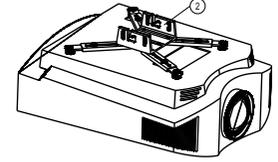

Figure 1-7
3 Step 3: install the assembly ② with the projector. According to the actual size of the projector (the installation hole position is different), each group of connecting arms and movable arms are fastened, and the distance locking screw can be adjusted appropriately. Refer figure 1-7